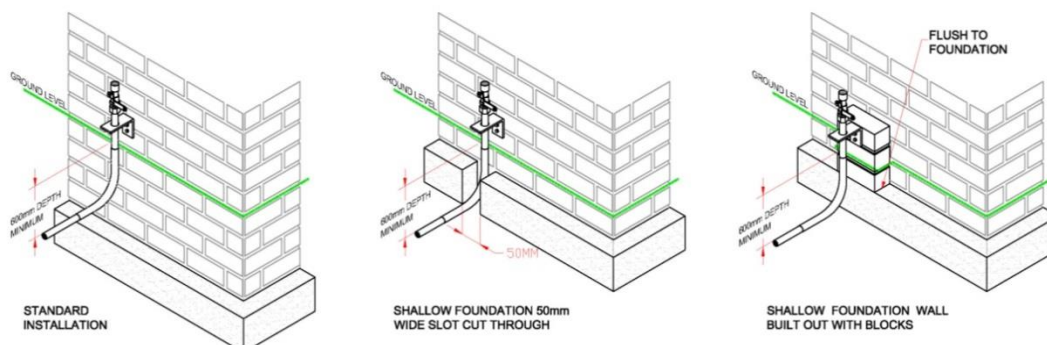

Figure 6: Footing Preparation
- If the property has a concrete raft a channel (minimum of 50mm) should be provided to allow the pipework to be fitted correctly and to the required depth. Alternatively, the brickwork can be blocked out to allow the emergency control valve to be fitted and the installation pipework routed from this point, see Figure 6.